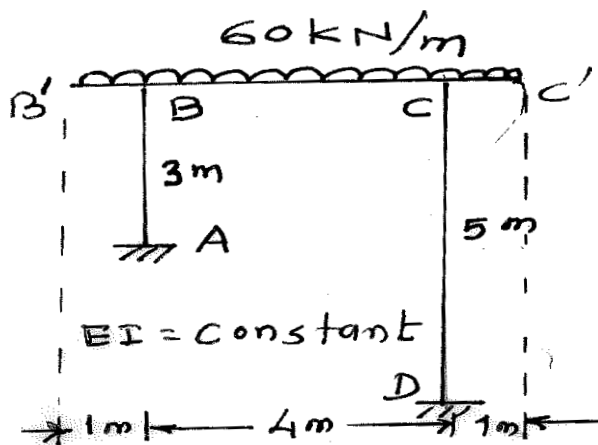

Fig 2
b) Derive the stiffness matrix for the frame loaded and supported as shown in fig 2. 8